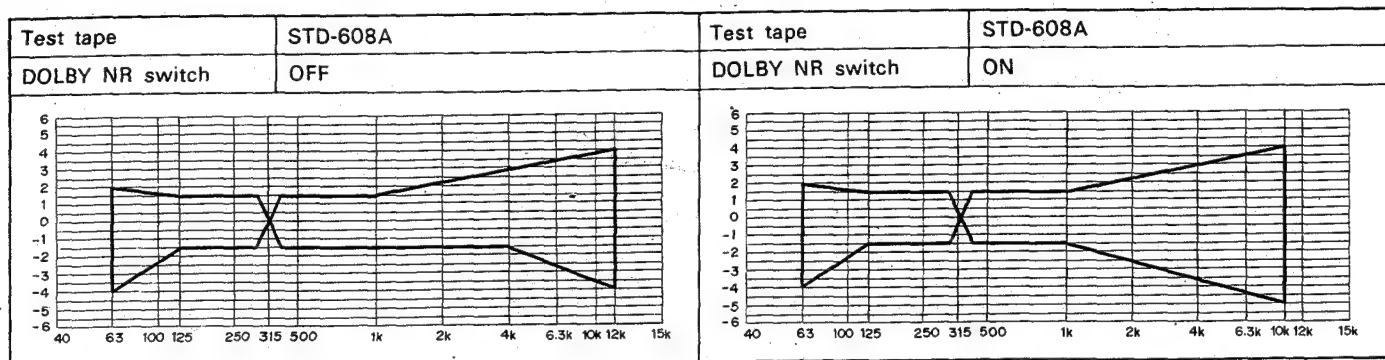

Fig. 10-6 Recording and playback frequency response tolerance zone (NORM)
* Select the test tape, tape selector, and Dolby NR switch and satisfy the frequency characteristic zone as shown in Figs. 10-6.